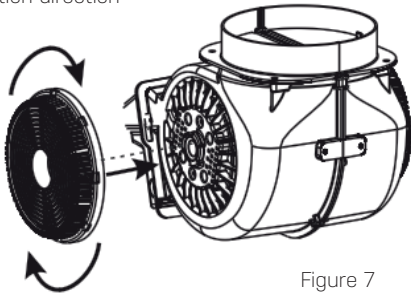

Figure 7
- Carbon filters are installed on both sides of the fan by rotating clockwise about 10 degrees as shown in Figure 7.